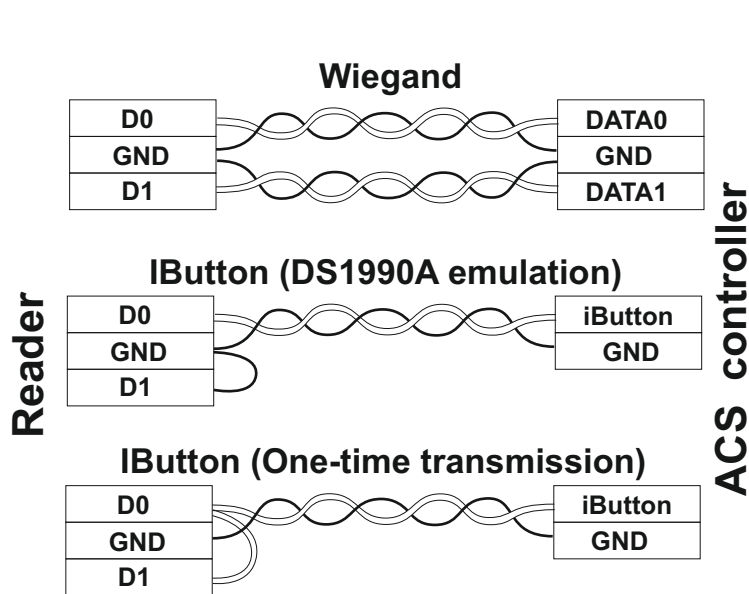

Fig. 1. Choosing the transmission protocol.
Note 3: To ensure proper operation at the specified distance between reader and controller, a CAT5e UTP cable must be used (see Fig.1).
- 1) On an unpowered reader, connect DATA0 (white) and LED R (yellow) terminals (See Fig.1).